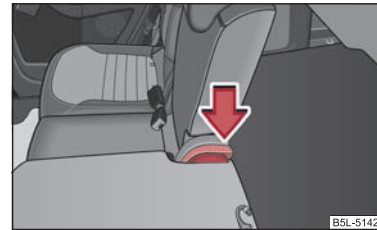

Fig. 67 Folding the seat backrest back into position
- Push the lever ⇒ fig. 67 and fold the backrest back into position. Check for yourself that the seat backrest is engaged.